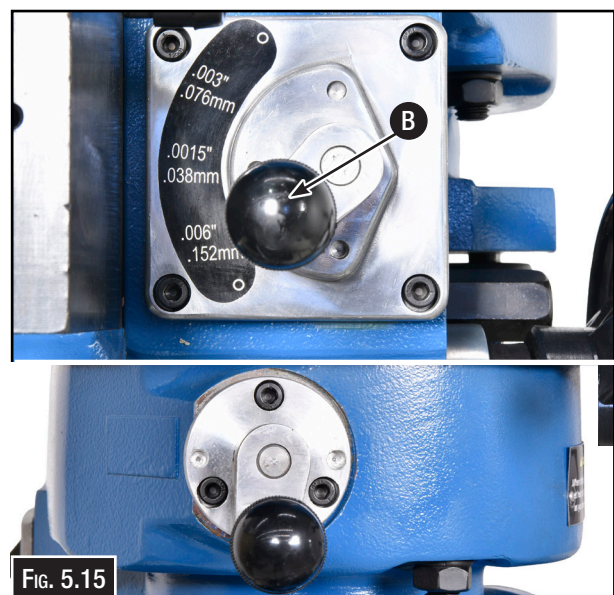

FIG. 5.15
1. Loosen the Locknut (J).
2. Using the Quill Feed Handle (K), advance the quill to the point where the feed should stop.
3. Engage the Feed Trip Cam Lever (D) by pulling it away from the head assembly.
4. Adjust Micrometer Adjusting Nut (I) against Quill Stop (H).
5. Continue turning the Micrometer Adjusting Nut (I) until the Feed Trip Cam Lever (D) trips.
6. Tighten the Locknut (J).
7. Ensure the Quill Lock (L) is off by rotating counter clockwise.
9. Select the speed rate with the Variable Speed Control hand wheel (F).
10. Set the Feed Rate Lever (B in Fig. 5.15) to the feed rate required for the tooling and material required.